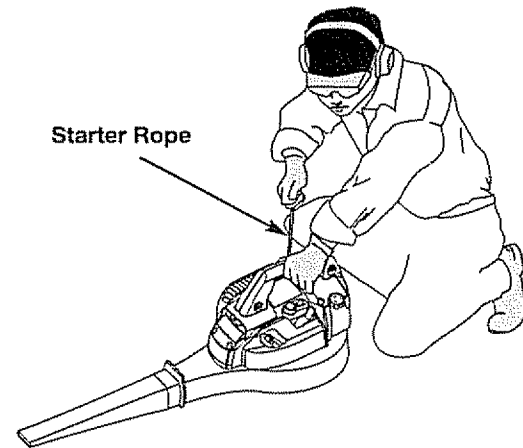

Fig. 10
4. Place the throttle control in the **FAST** position (F) and pull starter rope until engine attempts to start (1-3 pulls **MAXIMUM**) (Figs. 10 & 11).
6. Pull starter rope until engine attempts to run (1-3 pulls **MAXIMUM**) (Fig. 10 & 11).
7. Move choke control to **RUN** (H C) position. Pull starter rope until engine starts (1-7 pulls) (Fig. 10 & 11).
NOTE: If the engine floods while trying to start, place the choke control in the **RUN** (H C) position. Move the throttle control to the fast position (F) (Fig. 10). Pull the starter rope briskly. The engine should start with three (3) to eight (8) pulls.
NOTE: For a warm engine, go directly to Step 5 above. Move choke to **RUN** (H C) position and the throttle control in the fast (F) position. Pull starter rope until engine starts (1-7 pulls) (Fig. 10 & 11).